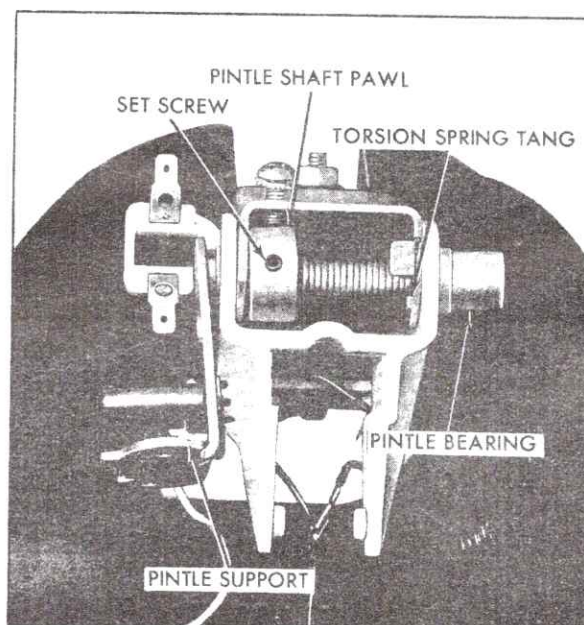

Fig. 15-25 Assembling Magnet Assembly
1. Position locking arm on pintle bracket and insert pintle shaft pawl so that set screw in pawl is visible. Position torsion spring and pintle bearing, Fig. 15-25.
2. Install pintle support on pintle shaft pawl, Fig. 15-25.